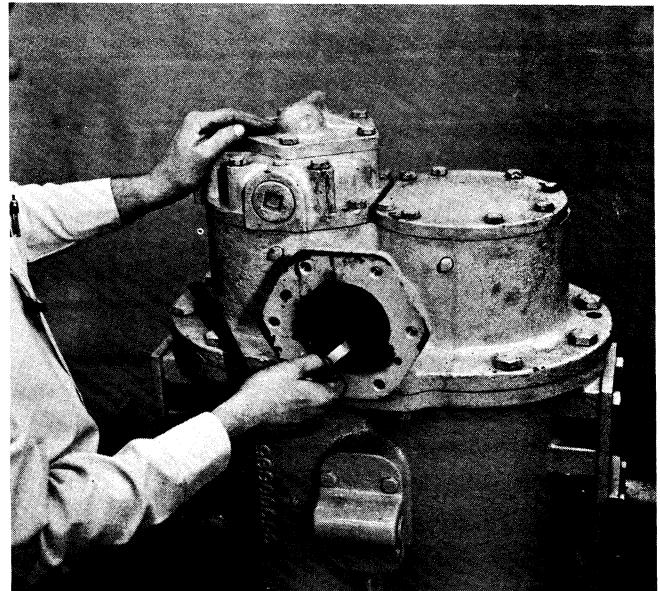

Figure 33
22. With a feeler gauge measure the discharge end clearance of each lobe of each rotor. Refer to Figure 33. This can be done through the discharge port. This is dimension "C". This dimension, as measured, must be within 0.001 inch of the discharge clearance tried for in the calculation done in Step 14. (It will usually be about 0.001 inch less than calculated due to metal deformation when the covers are torqued down). The discharge clearance must be between 0.002 and 0.004 inch. If it is not, go back